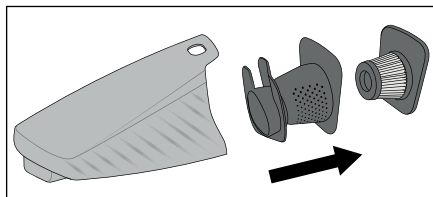

Fig. 4
- 3) Start by pulling the EPA filter **5** and then the coarse filter **6** out of the dirt container **7** (Fig. 4). Tap out both parts over a rubbish bin or similar. If necessary, you can rinse out the EPA filter **5** with fresh water. Allow it to air dry fully afterwards.